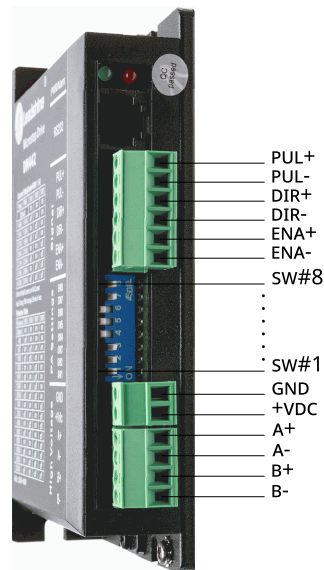

Figure 17
12. Check the resistance between the grounding terminal (GND terminal, see Fig. 17) and accessible conductive parts. The result must not exceed 0,1 Ohm.
Driver appearance and its terminals layout are shown on Fig. 17.